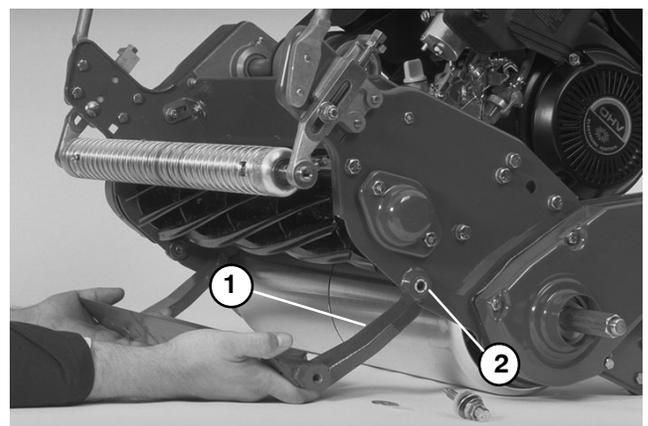

Figure 28
5. Remove bedbar from the mower. Keep metal washers and discard nylon washers. Remove and discard both nylon bushings (Fig. 28).